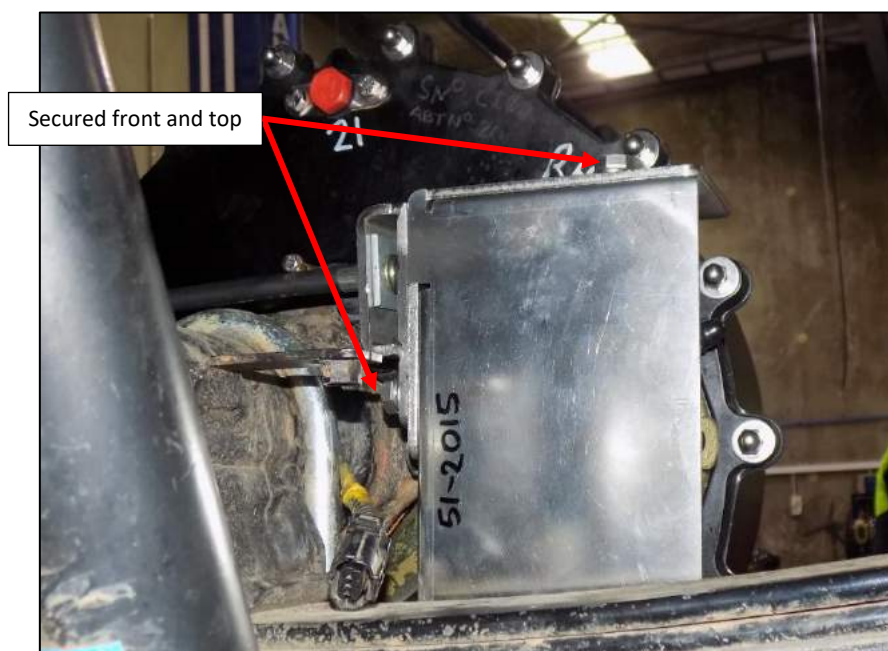

Figure 71
1. Remove the park brake shroud from the brake assembly (Figure 71).